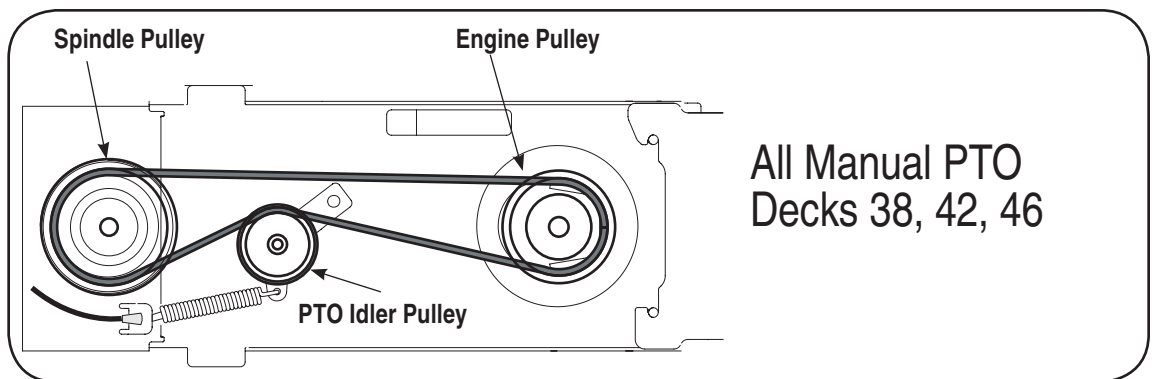

Figure 8-2
1. Attach and route the upper drive belt around the engine pulley and spindle pulley, routed to the **INSIDE** of the PTO idler pulley on the undercarriage. Make sure the belt is routed inside of the belt keeper pins found around the spindle pulley and engine pulley. See Figure 8-2.